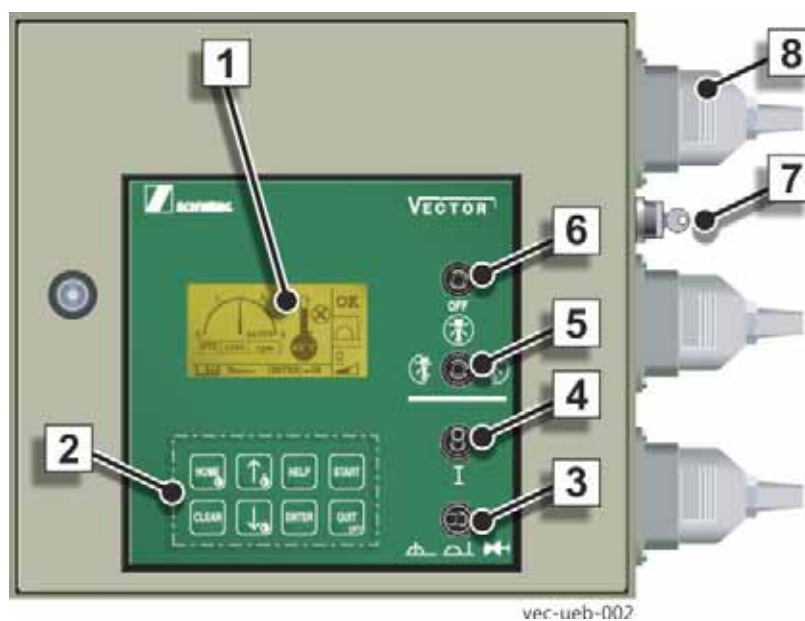

Fig. 166
Operating data and malfunctions that occur while using the local control unit are output on the display of the VECTOR control system (1) (**Fig. 166**).
If not all of the switches are in the neutral position, the VECTOR control display (1) (**Fig. 166**) will output a corresponding error message and it will not be possible to change operating modes.